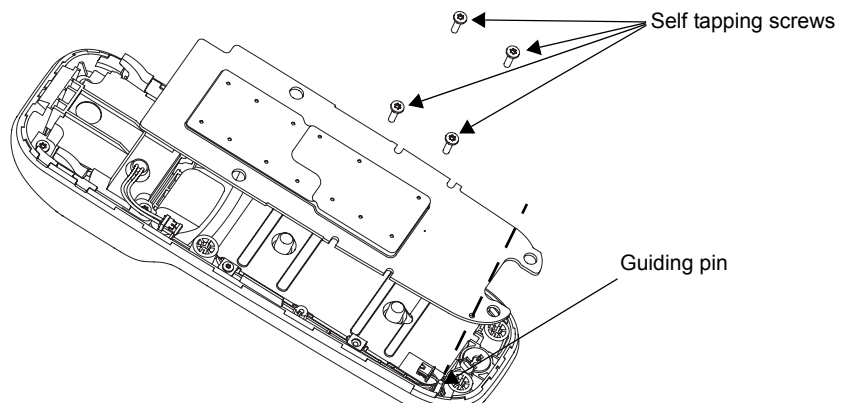

Figure 6-42 Handset Back Housing
9. Assemble the Handset main PCB to the Handset front housing by aligning to the PCB to the front housing's guiding pin as shown in Figure 6-42 below. Make sure the wire is not pinched.